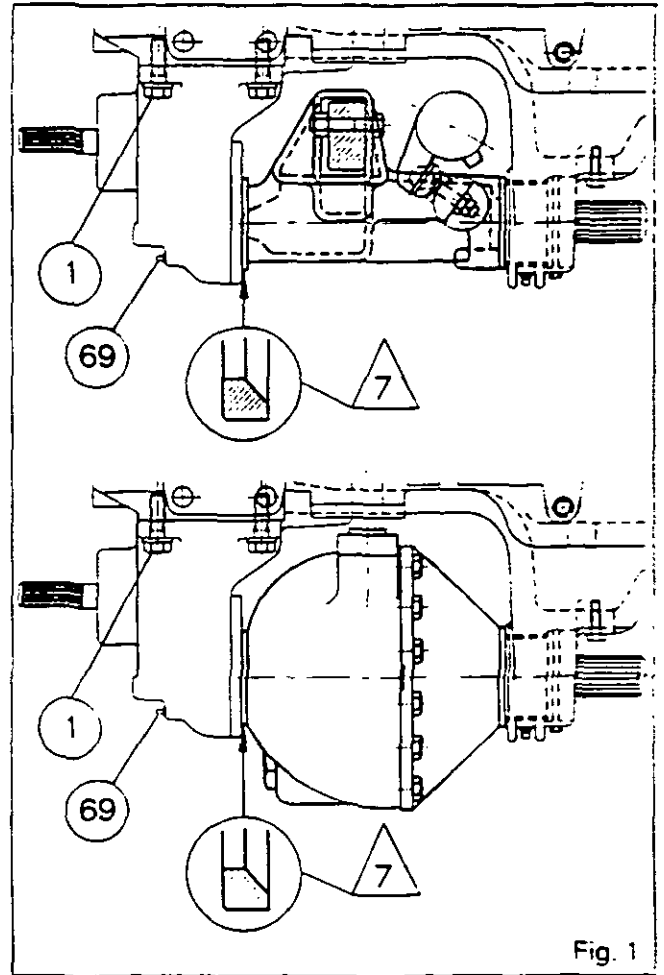

Fig. 1
9. Remove the bolts (1) and the grease nipple (69) (see Fig. 1).
10. Screw a locally manufactured hook in place of the filler plug (50). Using a travelling hoist, remove the PTO unit as shown in Fig. 2, disengaging the bush (87) from the coupling (76). Recover the chamfered washer (7) (see Fig. 1).